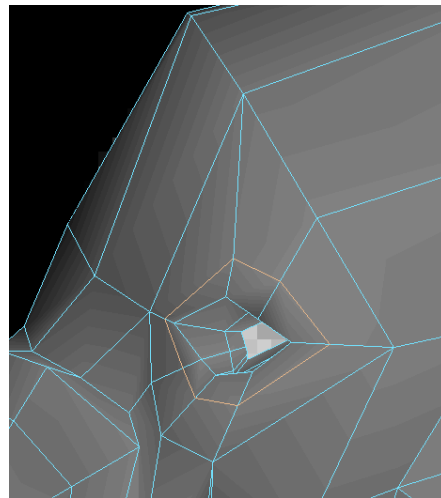

Figure 56: Another edge loop is added around the eye
5. Insert another edge loop around the eye, pull the highest vertex down a little as in figure 56.